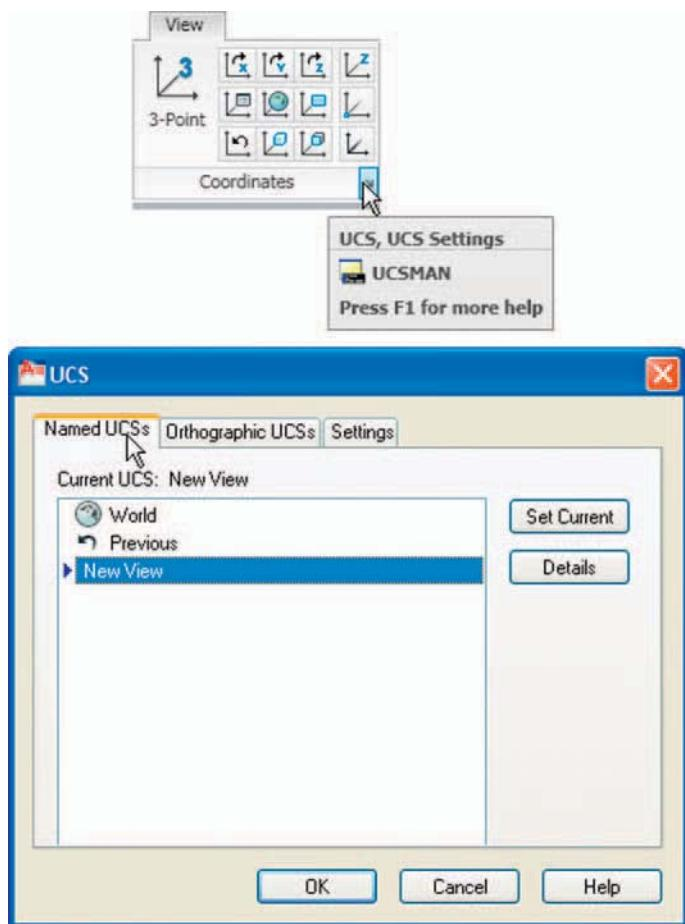

Fig. 17.18 The **UCS** dialog
*Click the **UCS**, **UCS Setting** arrow in the **View/Coordinates** panel and the **UCS** dialog appears. Click the **Named UCSs** tab of the dialog and the names of views saved in the drawing appear (Fig. 17.18).*